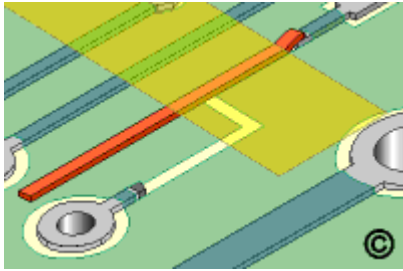

Fig. 3.14
2. Remove damage, place new track and solder (Fig. 3.14)